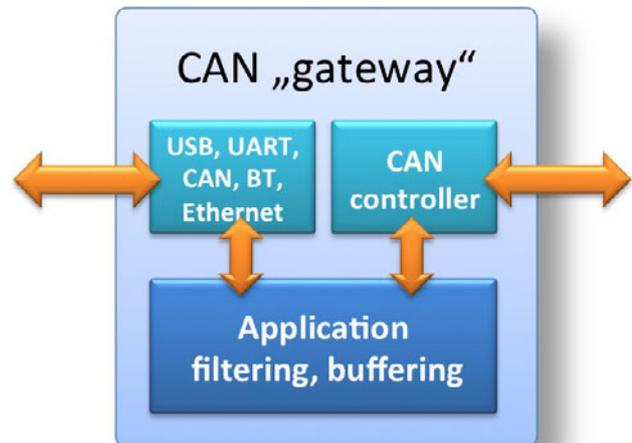

Figure 1: CAN interface, bridge, or gateway with „unlimited“ message forwarding (Photo: EmSA)
However, it still depends on the specific application how much security is needed for a particular functionality. A subnetwork in the seat of a passenger vehicle to control comfort functions like position or seat heating won't require the same level of security as the active steering component. The multiple networks in these vehicles are a good example to illustrate what we must change in our mindset for future, more secure applications. Bigger vehicles use multiple busses, some will be based on CAN (FD), others could be using LIN or some Ethernet variant. Crucial for the separation of various level of security are the interfaces, bridges, and gateways between the networks. In the past, the design for all these focused on high performance and throughput as well as reusability and flexibility. Often that meant generic, unlimited access and unlimited and transparent communication between the networks as illustrated by Figure 1.